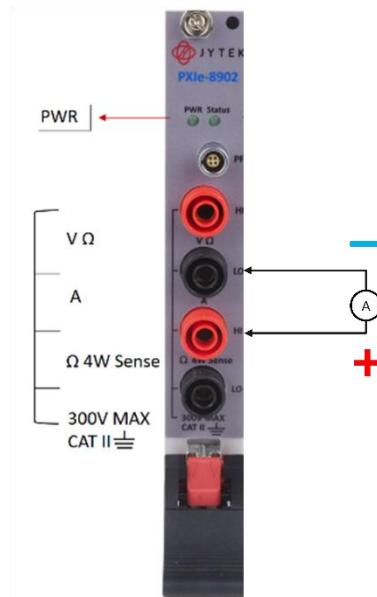

Figure 11 Connection Method of current measurement
- Connect the current signal generator ($I = 20\text{mA}$, DC) to JY-8902 as shown in Figure 11 Connection Method of current measurement .
When measure AC current, use same connection method as shown in Figure 11. The JY-8902 will measure the AC component of the current in the circuit.
- Connect the current signal generator ($I = 20\text{mA}$, AC) to JY-8902 as shown in Figure 11 Connection Method of current measurement.